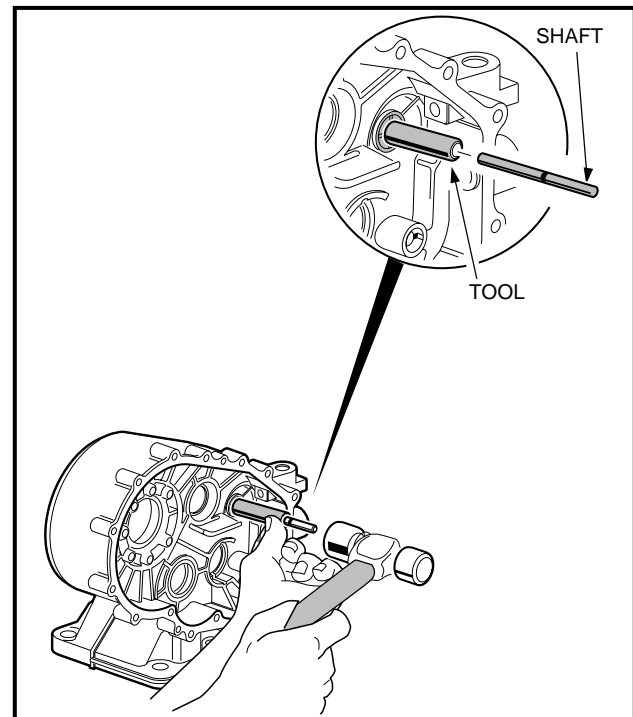

Figure 16-76 Governor Gear Shaft
3. Position the governor gear shaft installation tool (CCI 101933101) over the shaft bore in the inside of the left (driver) side case and insert the governor gear shaft into the tool, long end (from the groove) first, as shown (**Figure 16-76, Page 16-32**). Make sure the shaft is started into the bore and then, using a plastic or rubber hammer, carefully tap the governor gear shaft into the bore until the end being tapped is flush with the end of the tool. Remove installation tool.